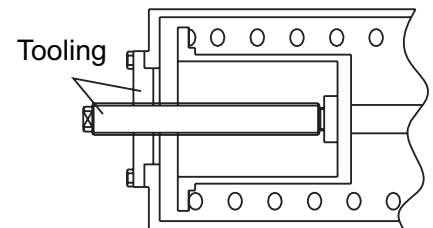

Figure 21
2. Withdraw Spring rod with special tooling (see Figure 21).